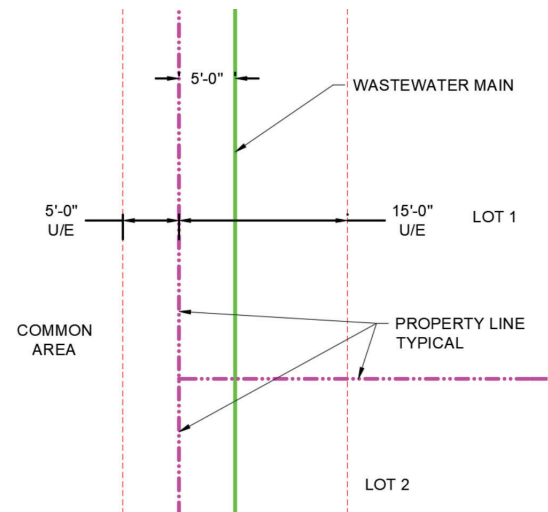

Figure 16 - Wastewater Installation Common Area
- 4.4. When a public wastewater main is adjacent to Common Areas (CA), the public wastewater main is required to be located in a twenty (20) feet U/E or as per Table 2. Typically, easements widths are fifteen (15) feet U/E on the property/lot and five (5) feet in the CA. However, any combination is acceptable as long as the total easement is twenty (20) feet or as per Table 2. The wastewater main must be centered as possible within the U/E. See Figure 16.